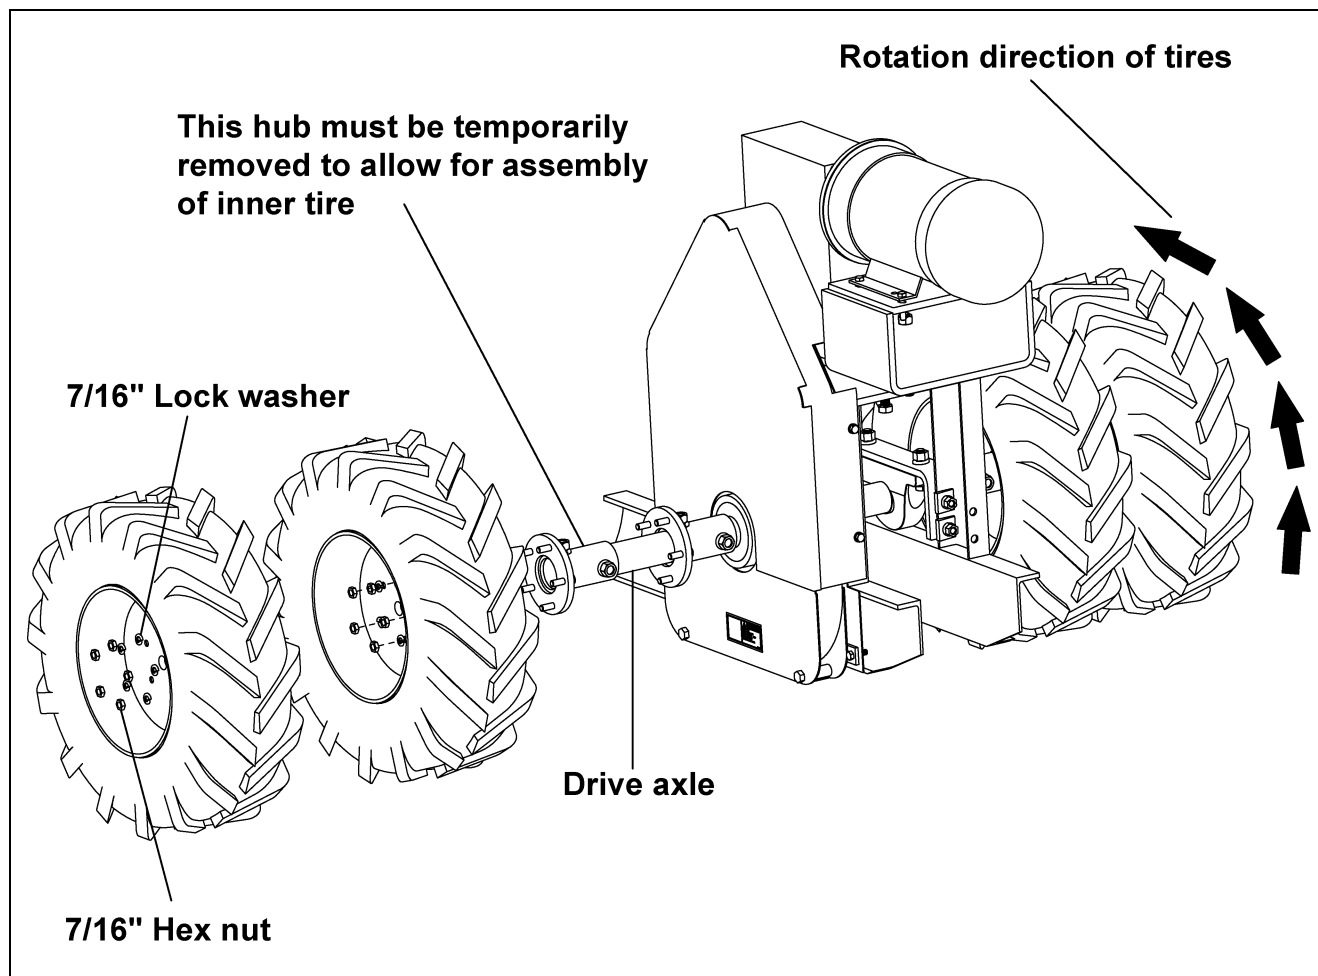

Figure 5R
(See Figure 5R.)
**NOTE:** Tires go on backwards as shown in Figure 5R.